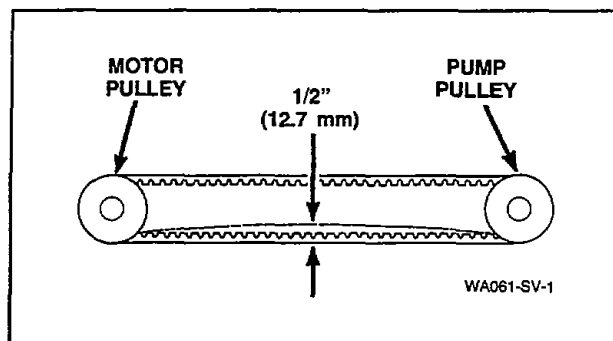

Figure 56
- Shift front of pump mounting bracket to the right or left to obtain proper belt tension. Proper tension is when belt can be deflected approximately one half inch (12.7 mm) from its normal position by applying moderate pressure (one and one half pounds — .675 kg) to a point midway between pulleys, *Figure 56*.